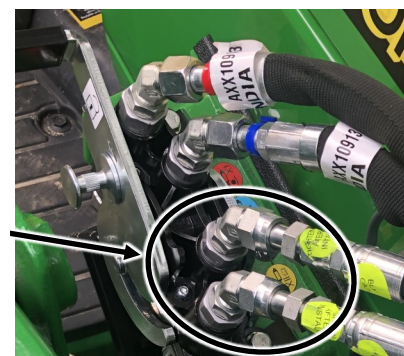

Fig. 3 (Disconnect Dump/Curl Hoses from Single Point Hydraulic Connector)
6. Disconnect the opposite ends of these hoses at the single point hydraulic connector on the tractor. These should be the hoses with the yellow and black zip ties. Hold the 45° fitting body with an 11/16" wrench and loosen the swivel fitting on the hose with a 13/16" wrench. See Fig. 3